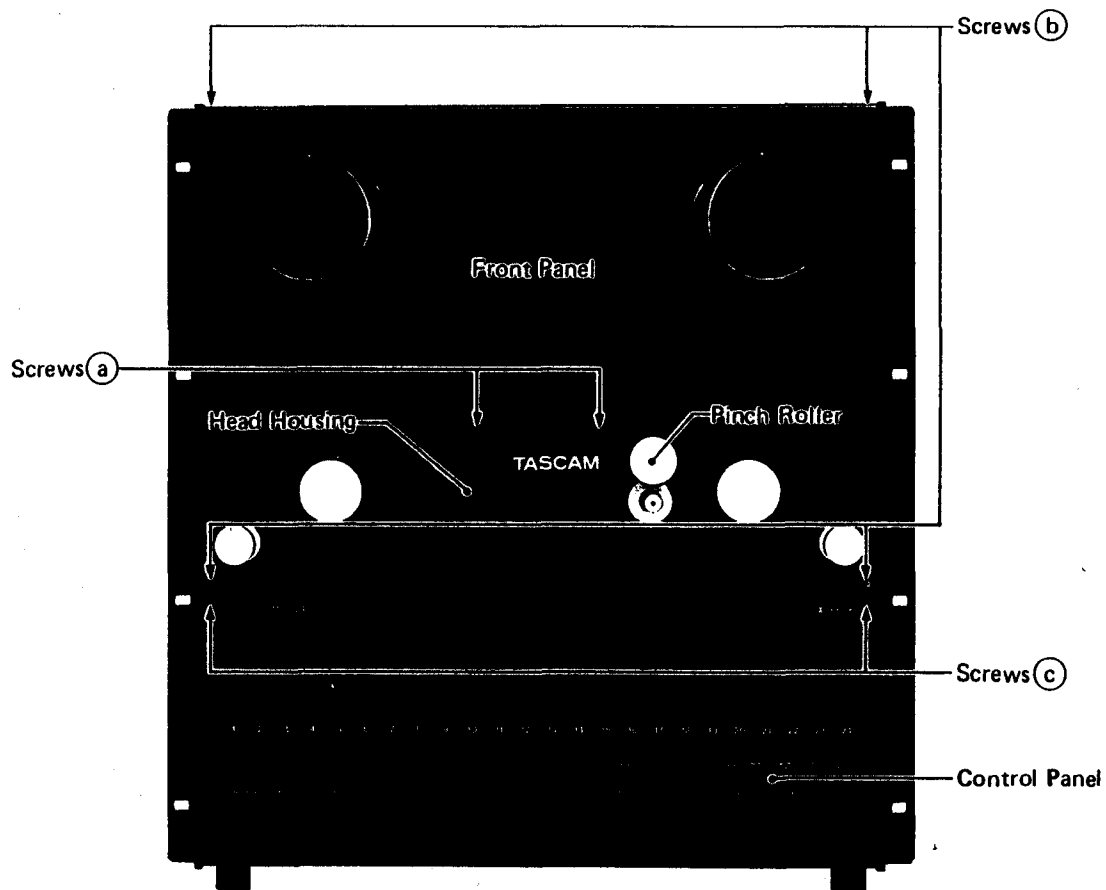

FIG. 6. FRONT VIEW
1. Remove the head housing by removing the two hex head screws marked (a) in Fig. 6.
3. Remove the four hex head screws marked (b) in Fig. 6.
Remove the two hex head screws (c) in Fig. 6 and the control panel can be opened by pulling it toward you.